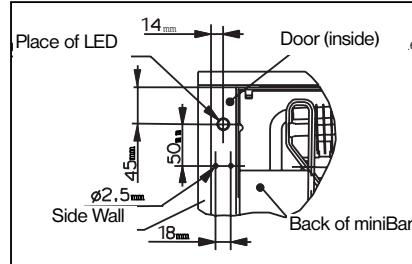

Figure 10.
2. Drill the hole for the LED according to the Figures 10 and 11.